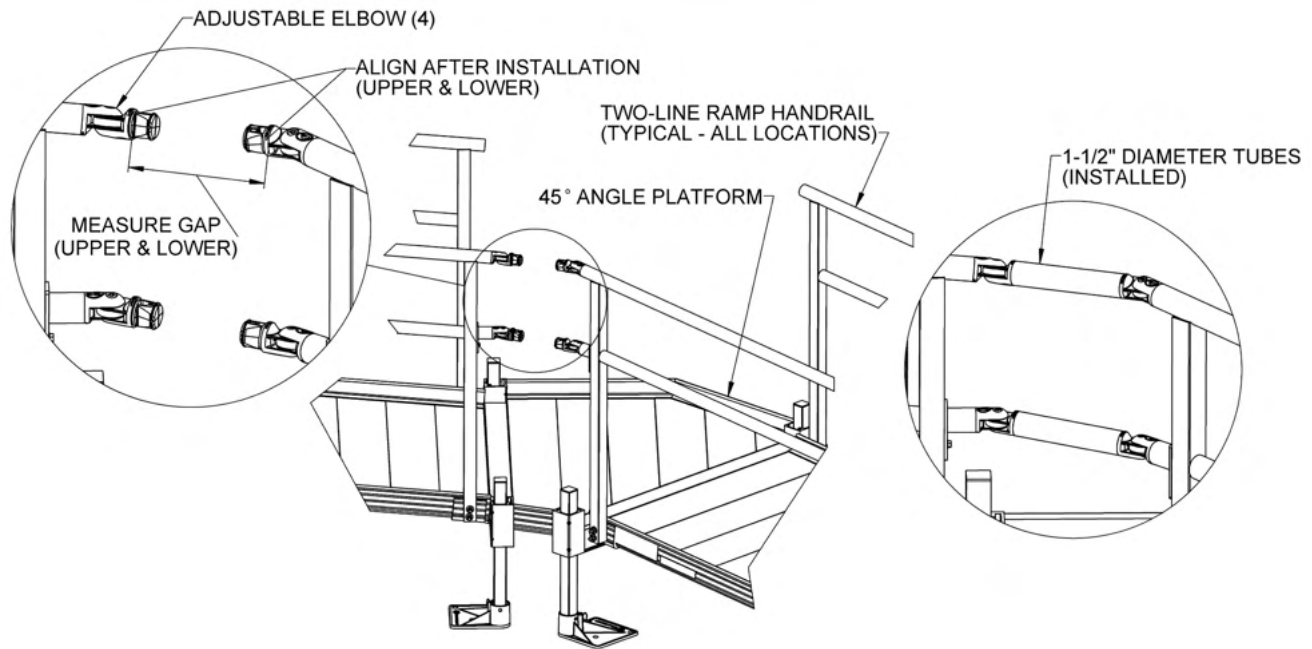

FIG. 4.11
- 4.6.4. Insert adjustable elbows into the ramp handrails and the Bolt-On Stub Rails (FIG. 4.11).
- 4.6.5. Loosen the elbow assembly screws and position the adjustable elbows so they are aligned with the adjustable elbows on the opposite side (but do not tighten), then measure the distance between the two larger round faces. Measure both upper and lower gaps because they could be different (FIG 4.11).